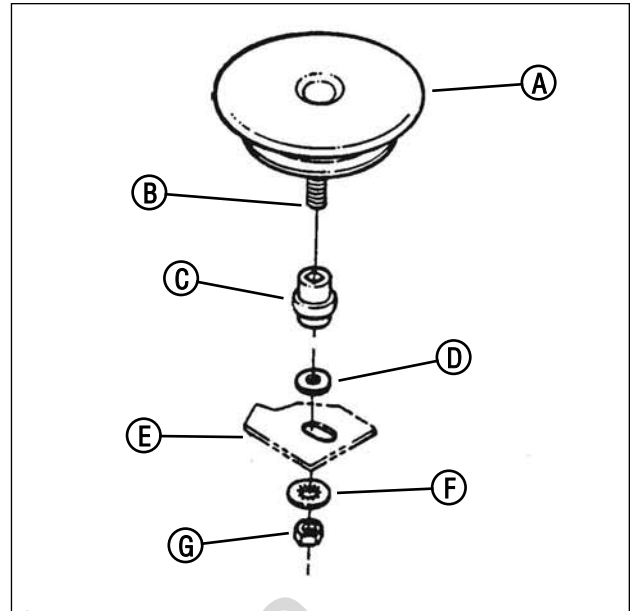

Figure 34: Removing the drive disc
5. Hold the slotted end of the drive disc bolt (B, Figure 34) with a screwdriver and remove the nut (G) and internal tooth lock washer (F).
7. Lift the drive disc (A) up and remove the worn belt.